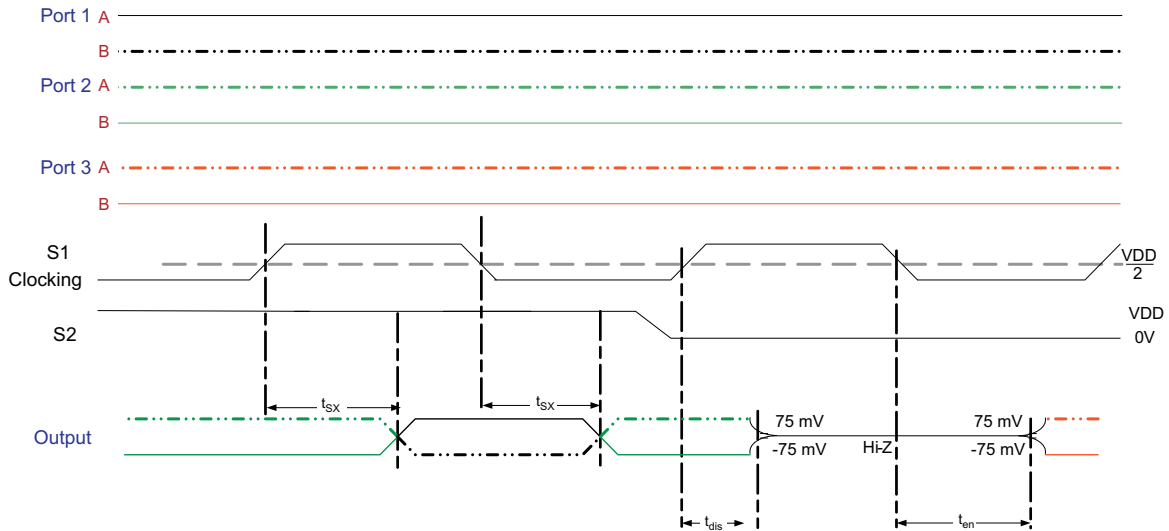

Figure 6. TMDS Outputs Control Timing Definitions
A. Channels 2, 3, 4, $V_{CC} = AV_{CC} = 3.3 V$, $T_A = 25^\circ C$, $R_{VSADJ} = 4.02 k\Omega$, See Figure 6 Figure 10.
A. Channel 1, $V_{CC} = AV_{CC} = 3.3 V$, $T_A = 25^\circ C$, $R_{VSADJ} = 4.02 k\Omega$, See Figure 6 Figure 11.
- A. 1080p 10-Bit, $V_{CC} = AV_{CC} = 3.3\text{ V}$, $T_A = 25^\circ\text{C}$, $R_{VSADJ} = 4.02\text{ k}\Omega$, See Figure 6, Clock Channel = 185.6 MHz, Data Channel = 1.856 Gbps
- A. 1080p 12-Bit, $V_{CC} = AV_{CC} = 3.3\text{ V}$, $T_A = 25^\circ\text{C}$, $R_{VSADJ} = 4.02\text{ k}\Omega$, See Figure 6, Clock Channel = 222.8 MHz, Data Channel = 2.228 Gbps